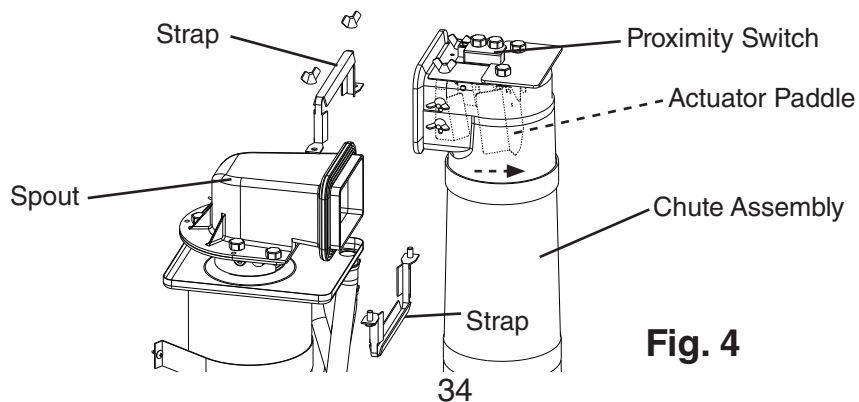

Fig. 4
- 3) Remove the strap connecting the spout to the chute assembly. See Fig. 4. Pull up the chute assembly slightly so that you can access the actuator paddle located in the top of the chute.